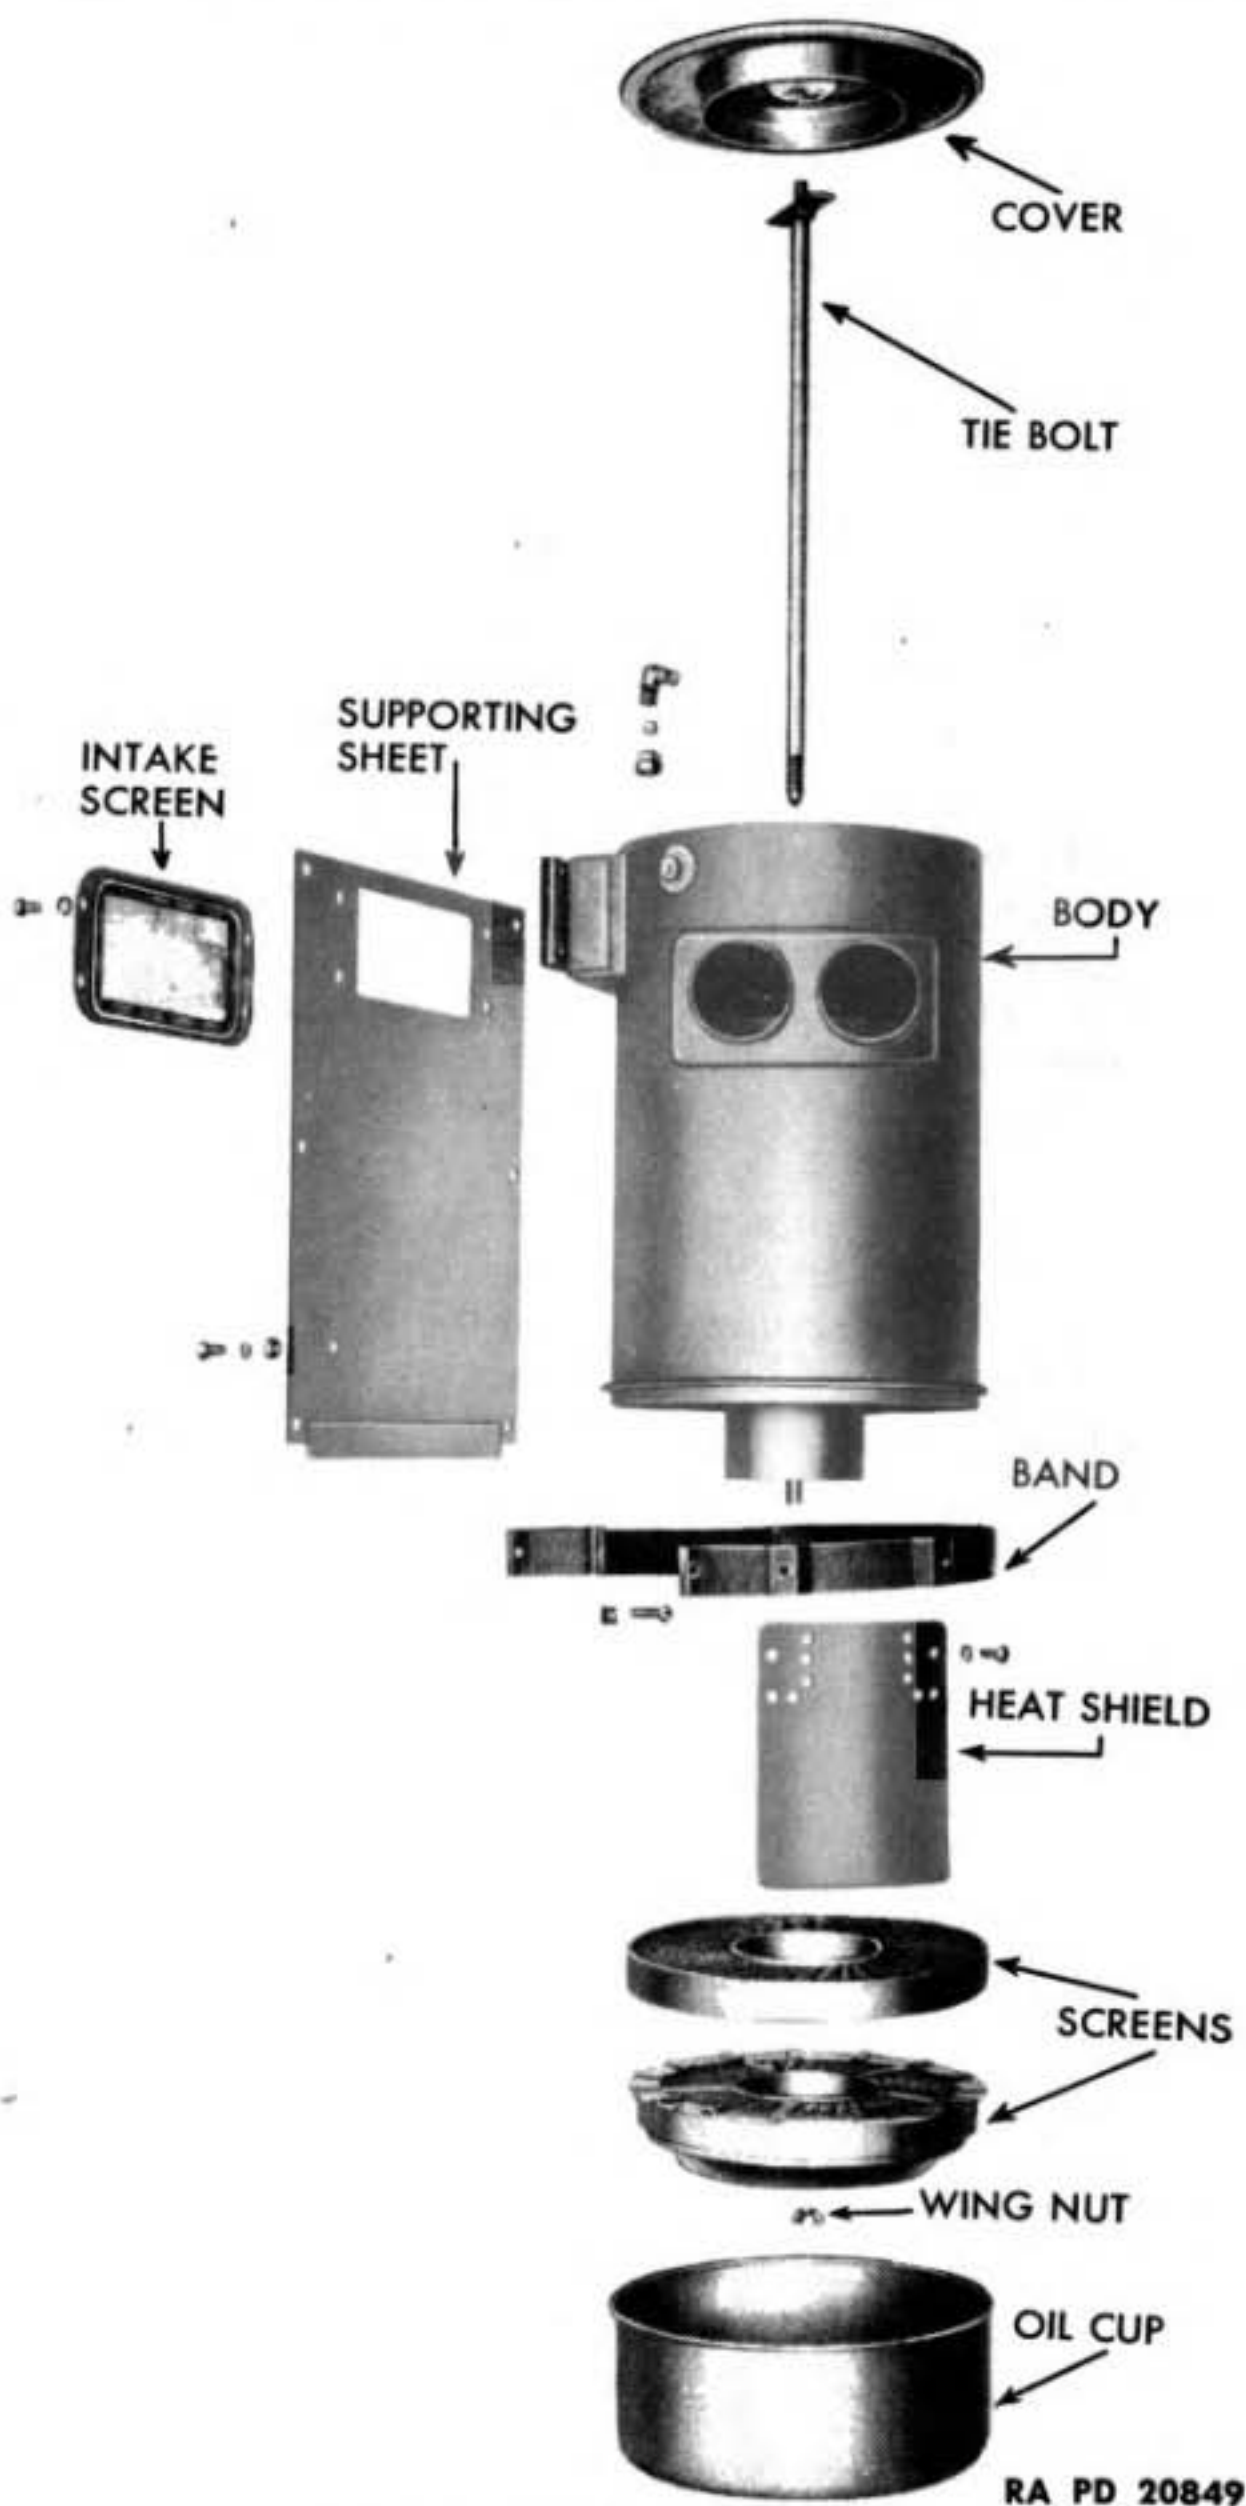

Figure 119 — Air Cleaner Components
73. DESCRIPTION AND OPERATION (fig. 119).